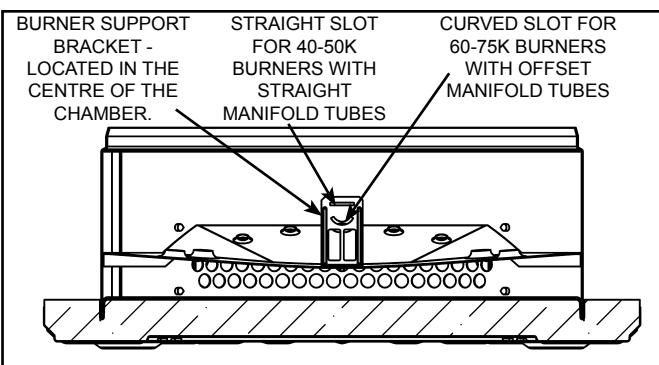

Figure 8
1. Insert the manifold/burner assembly in the burner chamber compartment, making sure that the tip of burner manifold tab engages in the proper slot of the bracket (see Figure 8). **Important:**